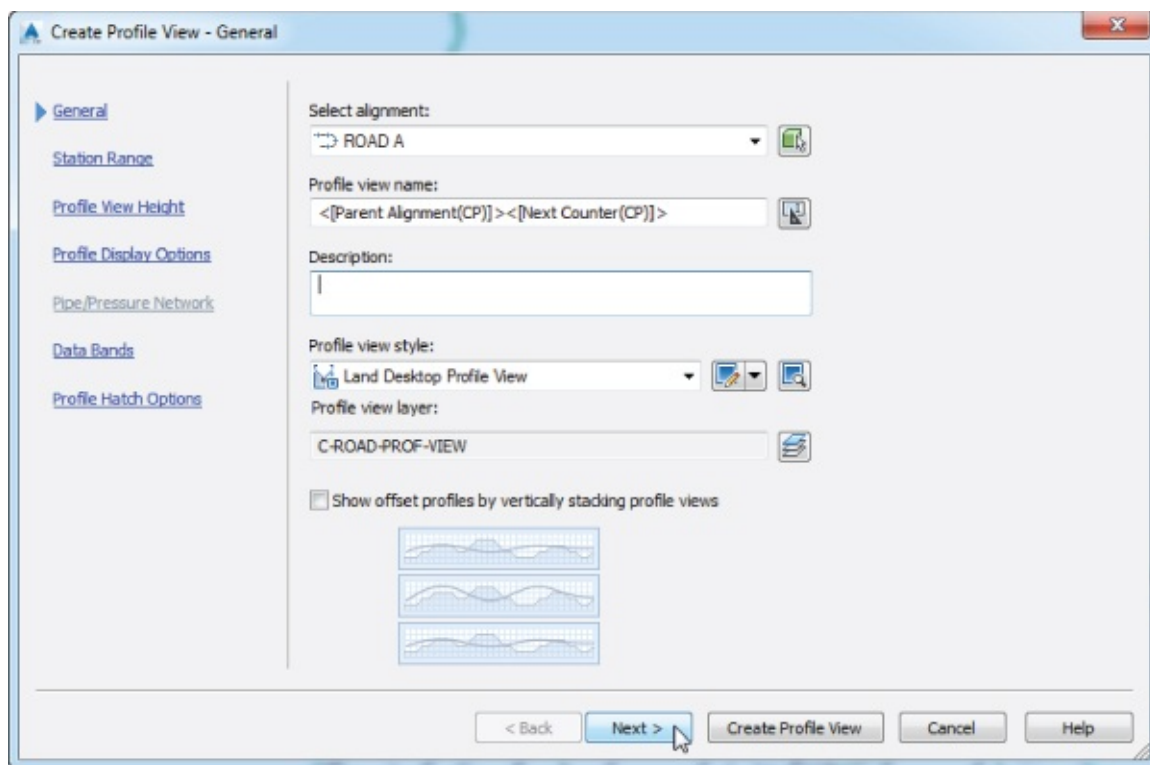

Figure 7.5 The Create Profile View – General : wizard page
12. Click Draw In Profile View to dismiss this dialog and open the Create Profile View Wizard, as shown in Figure 7.5.